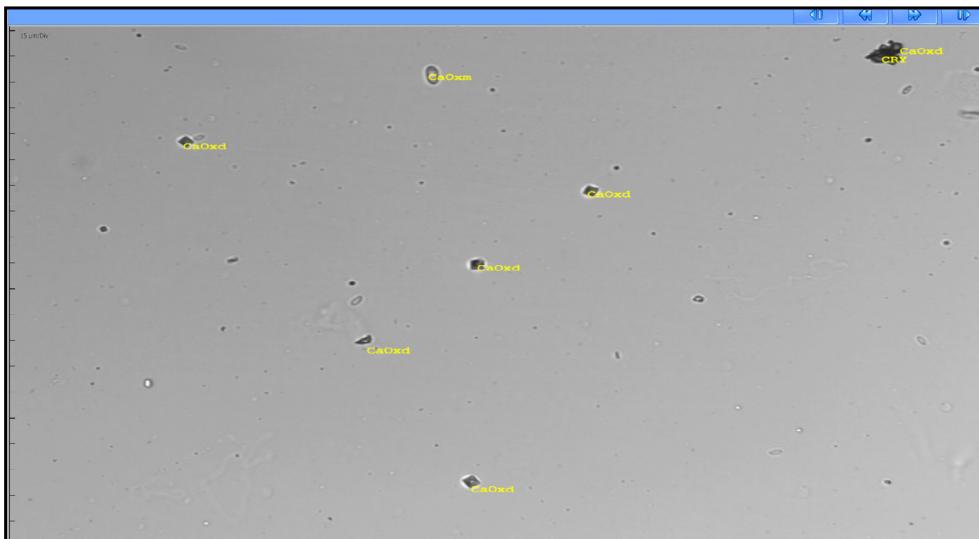

Figure 10: Automatically evaluated and tagged view field image of a Normal image
- View field images that are not crowded with particles are, regardless of whether they are negative or pathological, considered **Normal** (see Figure 10)—they have **No** in their **For review** column in the Image List. The majority of view field images is of this type.
Keyboard shortcuts: C—toggles all the particle tags ('captions') in the image; R—toggles a ruler running along the sides of the screen (see Figure 10); G—toggles a grid over the image for the better estimation of particle size (see).